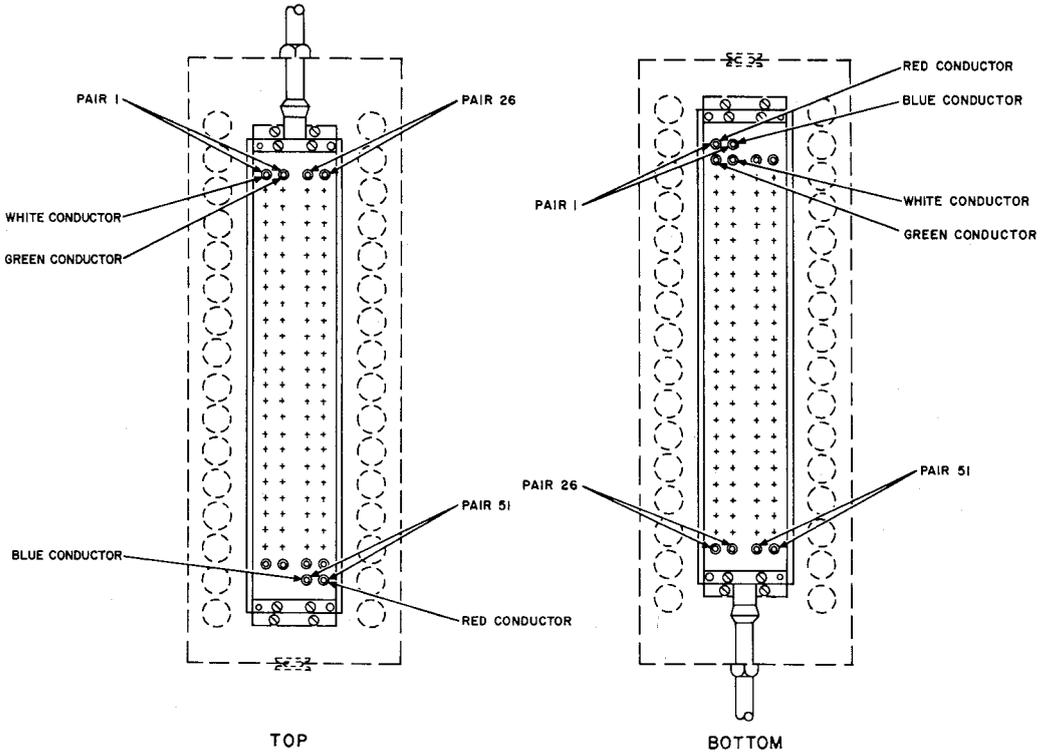

Fig. 41—Superseded 53A2-51 Cable Terminal
6.03 The 53A2-51 cable terminal (MD) (Fig. 41) and 53A3-50 cable terminal (MD) are mounted on the P-375155 mounting bracket the same as the 53A4-50P terminal.